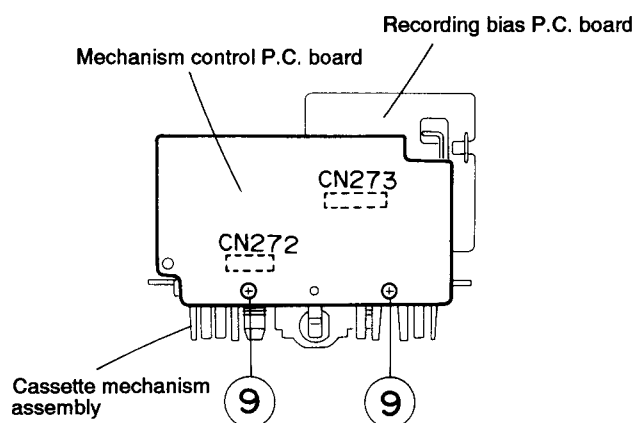

Fig. 5-12
■ Removing the mechanism control P.C. board (See Fig. 5-12)
2. Remove the two screws ⑨ retaining the mechanism control P.C. board.